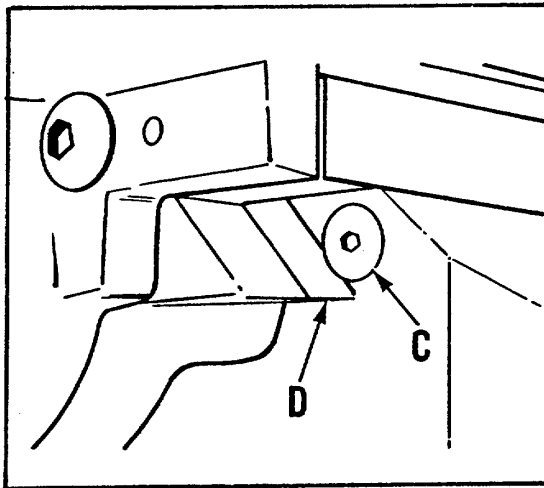
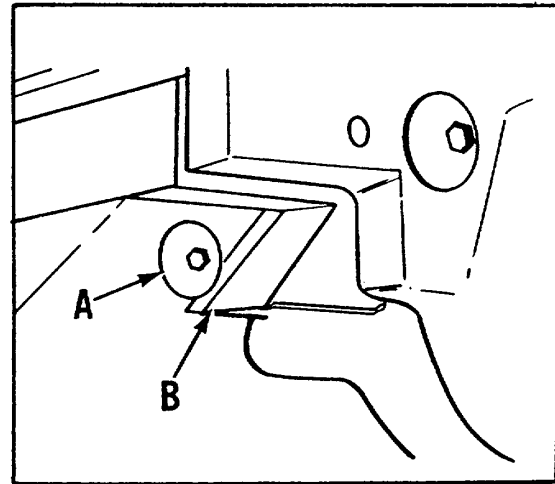

Fig. 14.
Fig. 15.
1. To tighten the gib, loosen the screw (A) on the small end of the tapered gib (B) Fig. 15. Turn in on screw (C) Fig. 14 on the large end of the tapered gib (D), until a good, snug, sliding fit is obtained.
When this is done, tighten screw (A) Fig. 15, recheck and make minor adjustments if necessary.
3. To loosen the gib, loosen the screw (C) on the large end of the tapered gib (D) Fig. 14. Turn in on screw (A) on the small end of tapered gib (B) Fig. 15, until a good, snug, sliding fit is obtained. When this is done, tighten screw (C) Fig. 14, recheck and make minor adjustment if necessary.